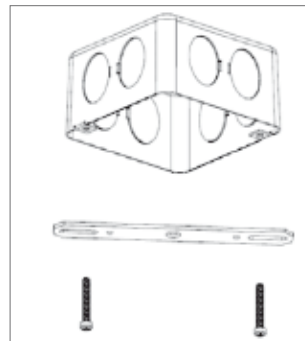

FIGURE 2
B) For 3.5" and 4" junction boxes, align appropriate holes on the mounting bracket with the holes on the junction box. Use of the included screws (M4x40 screws) to attach the mounting bracket to the junction box. Mounting bracket should be flush with the ceiling. For 2.75" junction boxes, skip this step. (Figure 2 & 3)